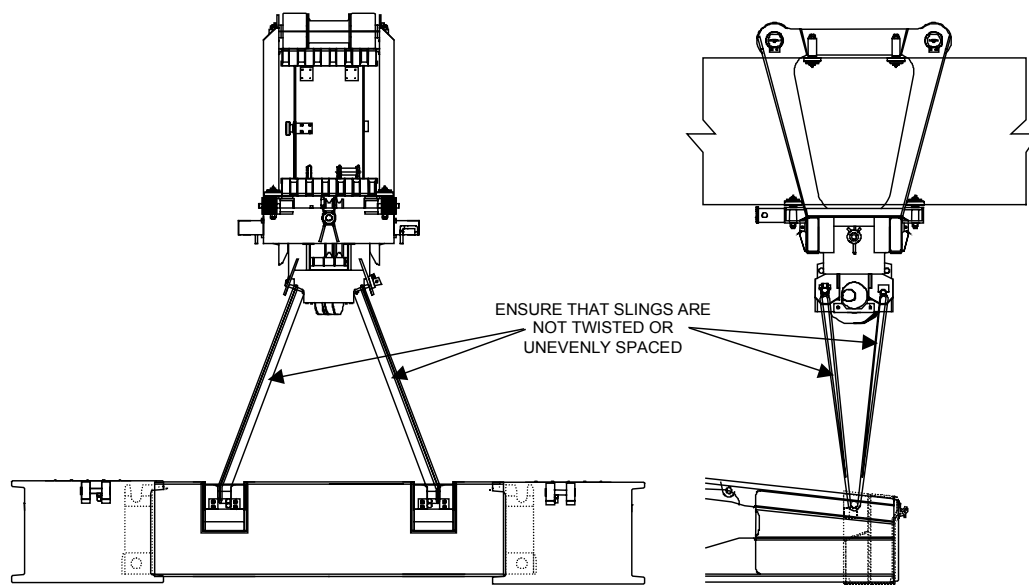

Figure 3. 35 Method and Location of Slings Far Bank Ramp Module
- 3.9.9.1 The far bank carriage is connected to the ramp module beams (see Figure 3. 36).